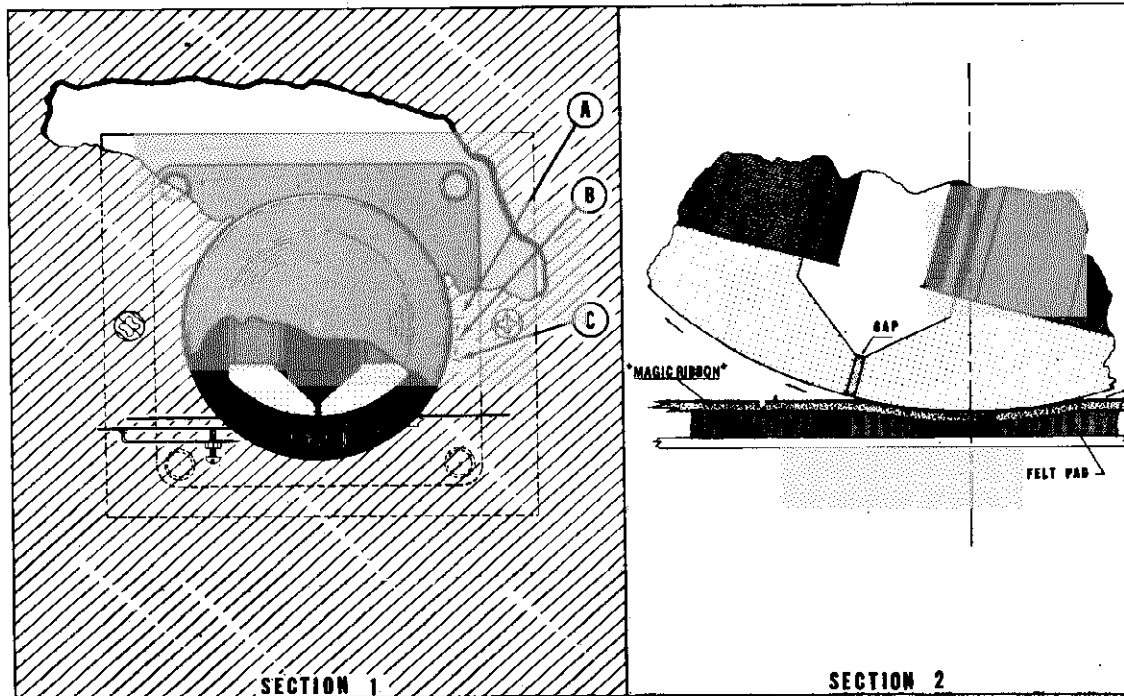

Fig. 39—Record-Play Head Adjustment
9. Shift the control lever to the "Stop" position to stop the reels. Fig. 39, Section 1, shows the head in the normal position. The cut-away of the head shows how the polepieces should contact the ribbon.
It is important to check this position after rotating the head to prevent the results shown in section 2 of Fig. 39. If the head is rotated too far in either direction the gap will not contact the ribbon and will result in a lack of high frequencies or no signal at all being recorded or reproduced. To check this condition:
10. Place a mark on the panel at point "B" of Fig. 39 to identify the "minimum hum" position of step 7 above. The mark should be made in line with the end edge of the opening in the record head.
13. Loosen the record-play head mounting screws enough to rotate the head toward "A" or "C" (Fig. 39) while listening to the signal being reproduced from the ribbon. When the position is found which allows the higher frequencies to be reproduced, place a second mark on the panel to identify this position.